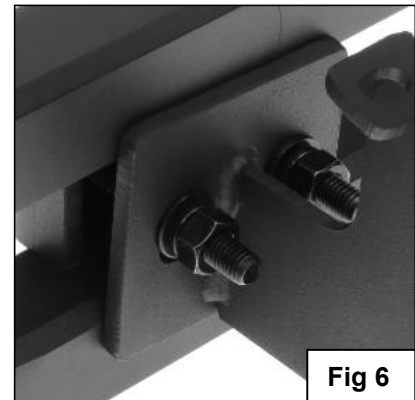

Fig 6
4. Select the Driver Side Bar. Slip (2) M10X1.5-75 Carriage Bolts into each 2-Hole Support Brackets, and insert the 2-Hole support bracket into the Driver Side Bar. **(Fig 5)**. Carefully position the Bar onto the (4) Mounting Brackets. **IMPORTANT: Do not slide the Bar on the Brackets or damage to the finish may result. Attach the Driver Side Bar to the Mounting Brackets with (2) M10 Hex Nuts, (2) 10mm lock washers and (2) 10mm flat washers, (Fig 6).** Do not tighten hardware.